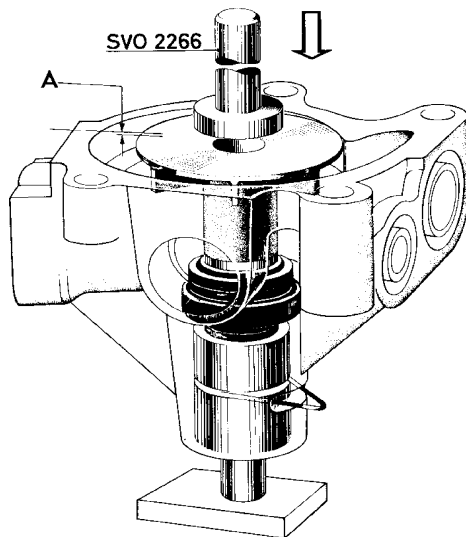

Fig. G4. Fitting the impeller
3. Make sure that the wear ring for the impeller is fitted properly and press on the impeller with SVO 2266 so far that the impeller lies evenly with or down to 0.4 mm (0.016") below the face of the pump body. The lower end of the shaft should be against a counterhold. See Fig. G4.